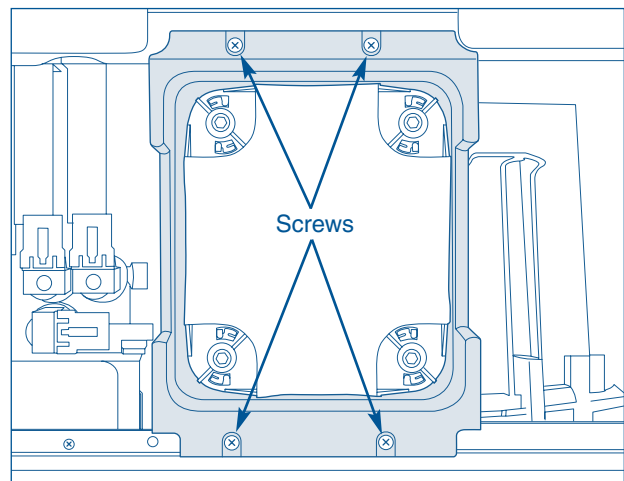

Figure 4-22.
1. Using a #2 square bit screwdriver, extract the four screws securing the vibration dampener to the unit frame. (See Figure 4-22)